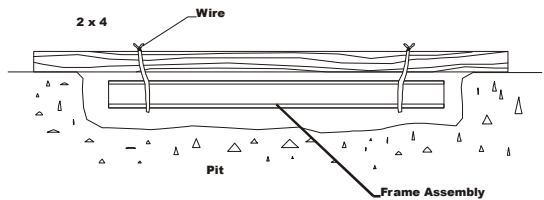

FIG. 24 EXCAVATED PIT AND SUPPORT FOR THE PIT FRAME
- Step 4. The drain hole will have to be deep enough to accommodate the pit coping, plus the thickness of the pit floor. (See Fig. 24)